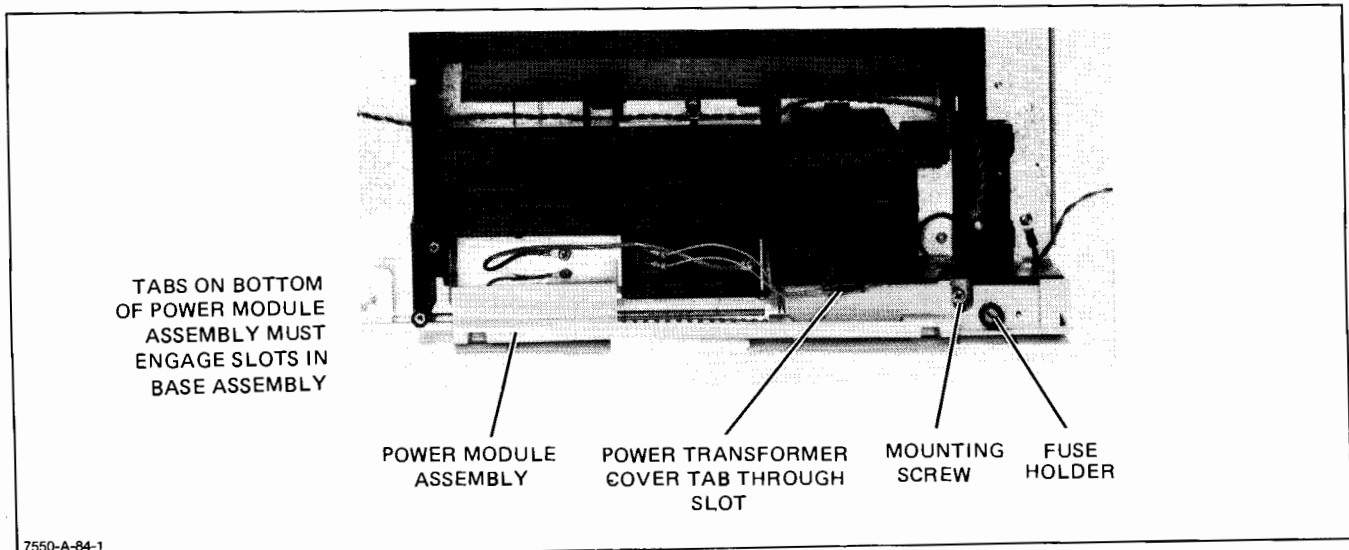

Figure 6-37. Power Module Assembly Removal
- d. Remove the power module mounting screw located adjacent to the fuseholder. See Figure 6-37.